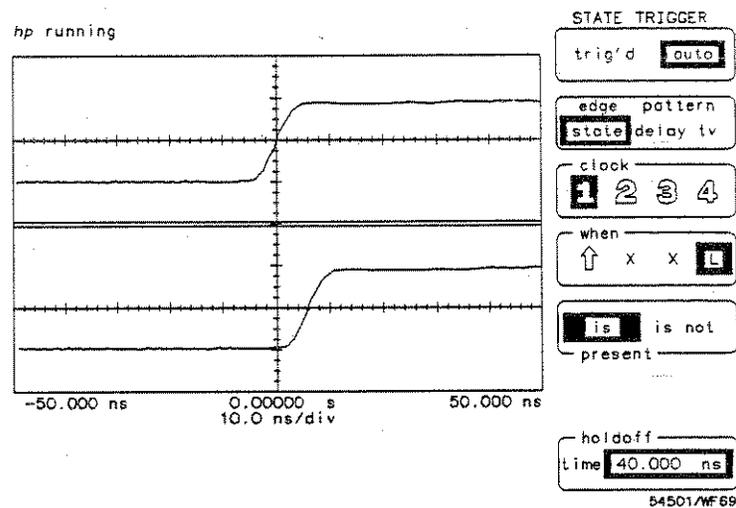

Figure 6-11. Channel 1 Clock XXL State
- Press the **when** key until **is present** is selected (see Figure 6-11).